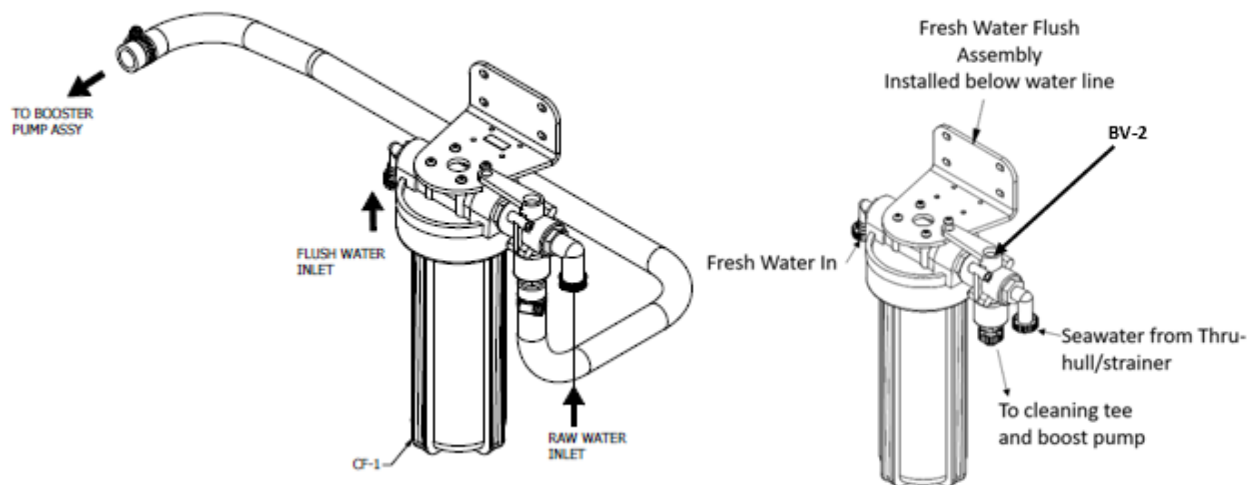
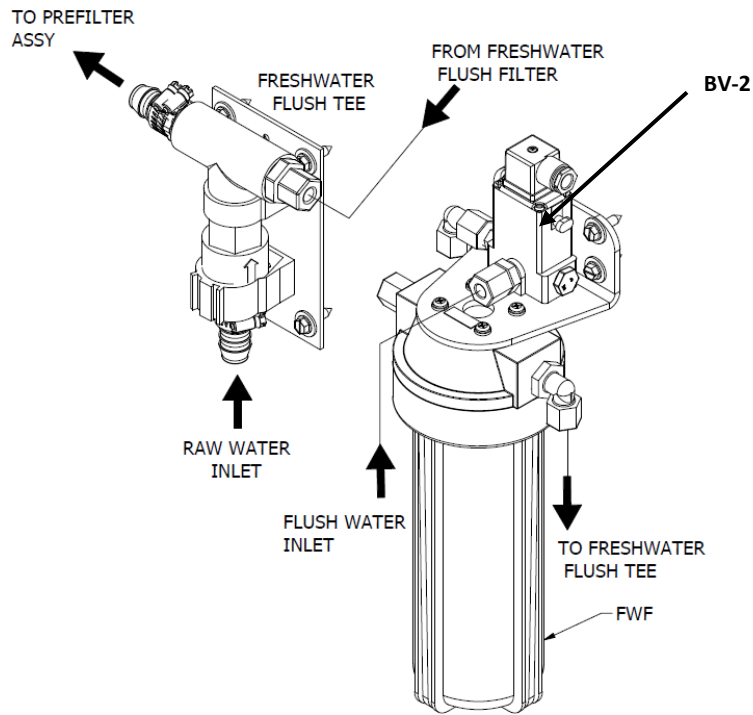

Figure 2.5.1: Manual Freshwater Flush Assembly
Figure 2.5.2: Automatic Freshwater Flush Assembly (PN:B598000008)
2) **Freshwater flush filter (FWF/CF-1)**: a filter that protects the system from chlorine during flushing. The three-way Freshwater Flush Valve (attached to Fresh Flush Filter Housing) must be mounted **BELOW the waterline.** Refer to Figure 2.5.2 to view the installation of the Automatic freshwater flush filter and check valve. Refer Figure 2.5.1 to view the installation of the manual freshwater flush filter.